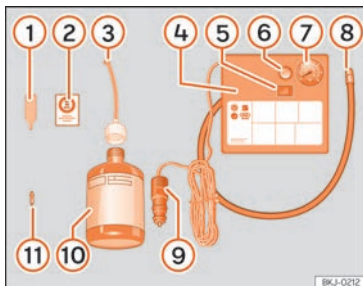

Fig. 227 Standard display: contents of the anti-puncture kit.
The anti-puncture kit is located underneath the floor covering in the luggage compartment. Includes the following components >>> **Fig. 227**:
- Unscrew the tyre valve cap and insert. Use the device >>> **Fig. 227** ① to remove the valve cap. Place it on a clean surface.
- Shake the tyre sealant bottle vigorously >>> **Fig. 227** ⑩.
- Screw the tyre inflation hose >>> **Fig. 227** ③ into the tyre sealant bottle. The bottle's seal will break automatically.
- Remove the filler cap >>> **Fig. 227** ③ and screw the open end of the tube into the tyre valve.
- Replace the howitzer with the device >>> **Fig. 227** ① onto the tyre valve.
- Screw the tyre inflation tube of the compressor >>> **Fig. 227** ⑧ on the tyre valve.
- Check that the air evacuation screw is closed >>> **Fig. 227** ⑥.
- Attach the connector >>> **Fig. 227** ⑨ to the vehicle's 12 volt power outlet >>> page 212.
- Switch on the air compressor with ON/OFF switch >>> **Fig. 227** ⑤.
- Attach the sticker >>> Fig. 227 ② to the instrument panel display, within the driver's field of vision.
Screw in the inflator tube >>> Fig. 227 ⑧ again and check the pressure on the gauge ⑦.